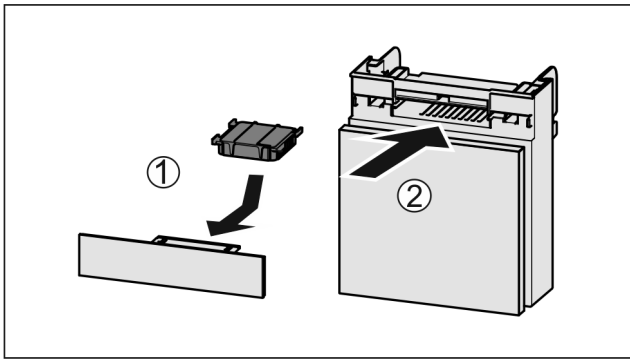

Fig. 186
- ▶ Insert the carbon filter as shown in the diagram Fig. 186 (1).
- ▶ Push the compartment in Fig. 186 (2).